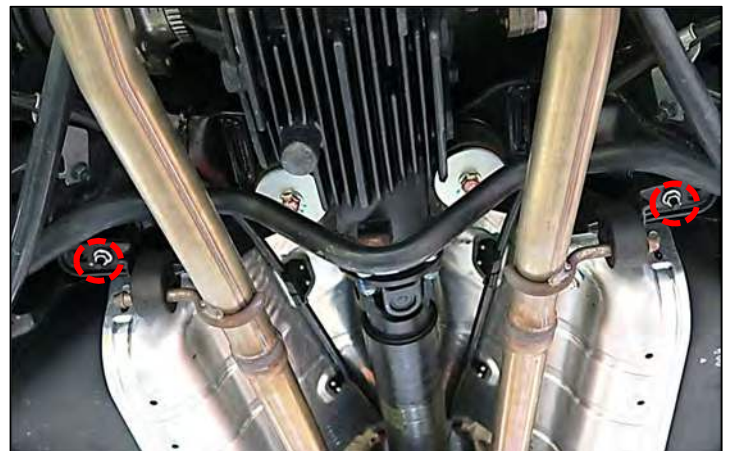

Figure 135
129. Reinstall the rear exhaust tube mounting brackets and hand start the (2) nuts. (Figure 135)